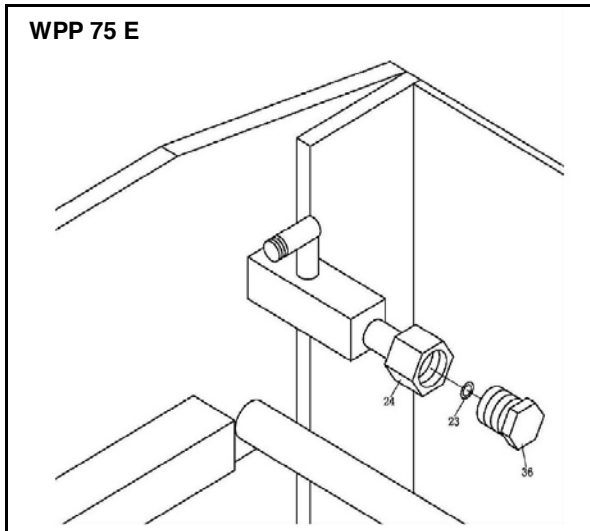

Fig. 12: Installing the pump unit
Step 2: Fix the pump unit with the screws and washers on the outside of the frame (see Fig. 12).